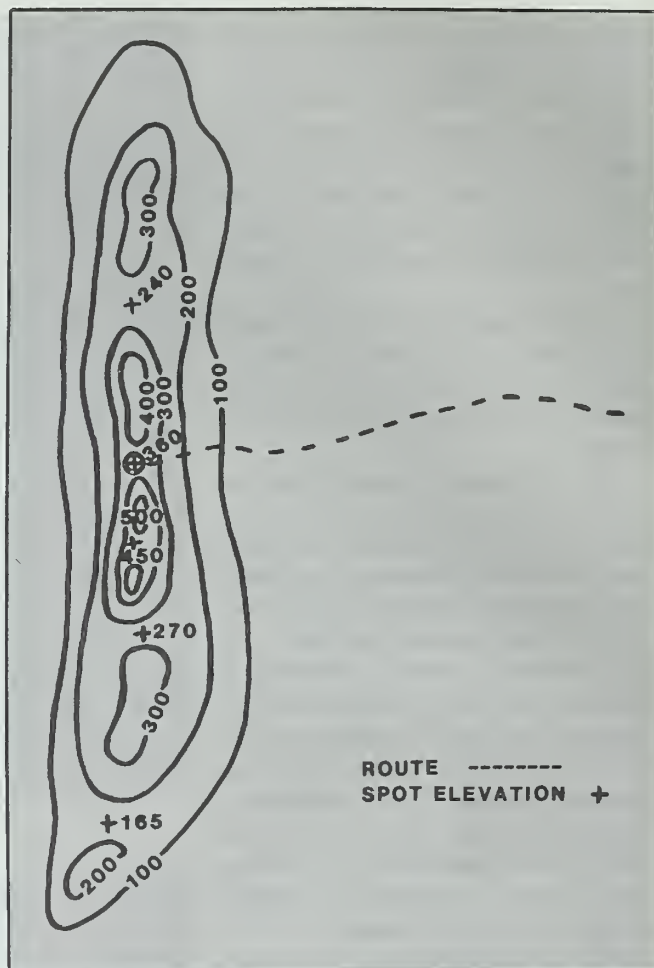

Figure 5
- You are crossing a low wooded ridge through a saddle after a 2,000-meter straight shot through a generally featureless forest (Figure 5). The problem is that you cannot see out of the forest to do a resection even from the ridge, and there is a series of saddles along the ridge. Because you are a tactical patrol rather than a survey party, your azimuth tracking has been good but not definitive, and you believe that you could be as much as 200